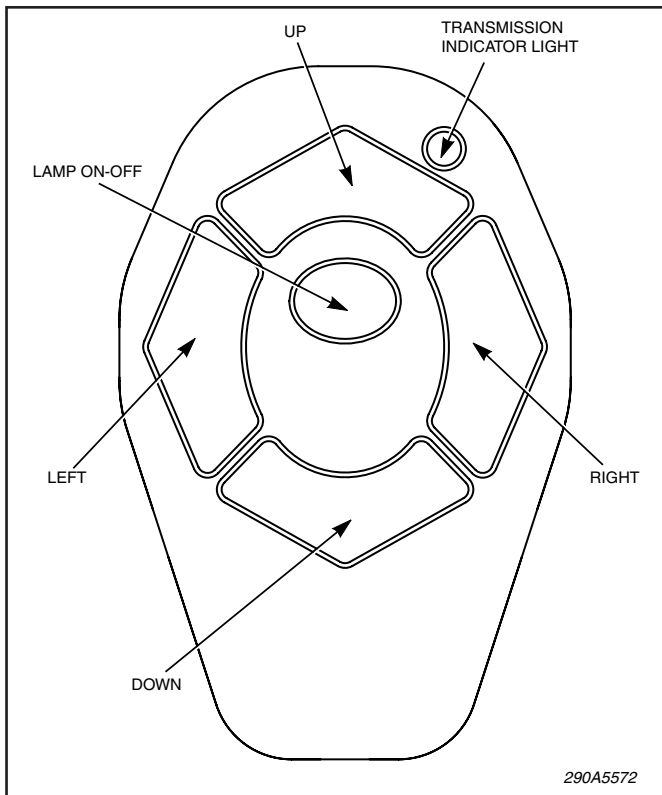

Figure 5.
- A. See figure 5. To move the spotlight reflector, depress the key for the direction desired. It is not necessary to illuminate the lamp to move the reflector.